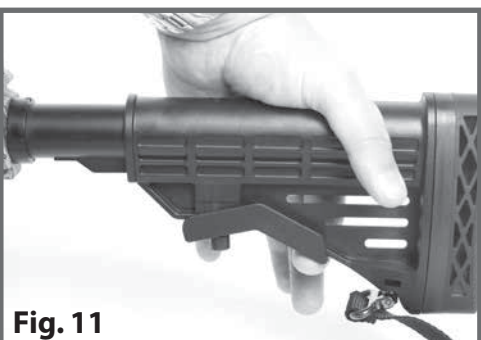

Fig. 11
1. Press the lever on the bottom of the stock. (Fig. 11)